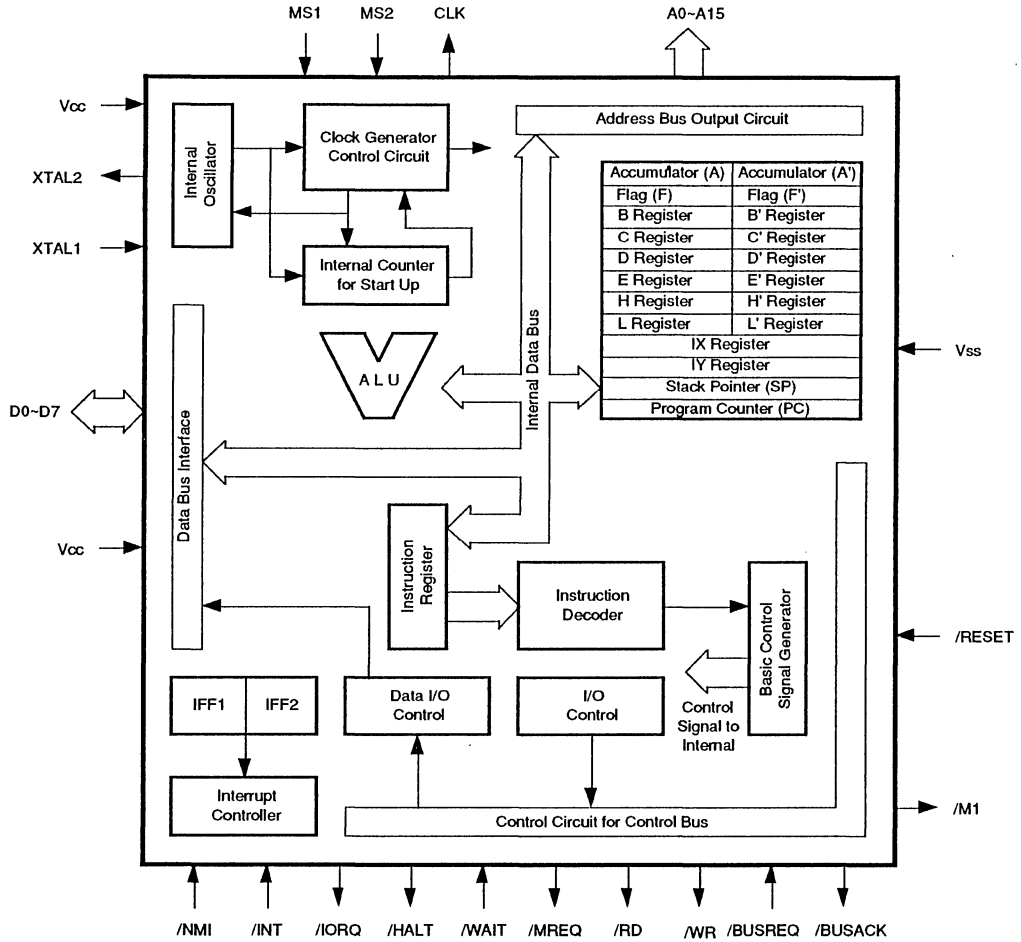

Figure 2. Block Diagram
**Block Diagram.** The block diagram of the internal configuration is shown in Fig. 2.